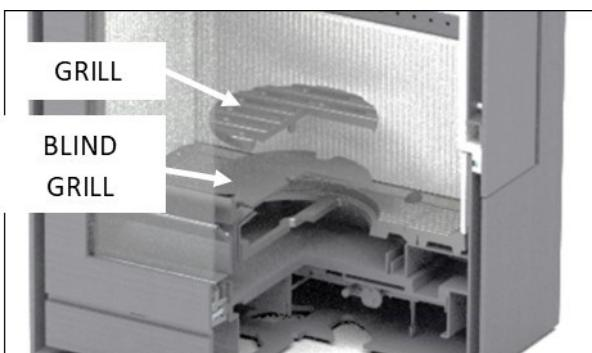

Fig. 14
**Important:** in the event of a weak draw and/or an insufficient ember bed, it is advised to leave the lower air supply open slightly in order to allow your appliance to reach its normal performance (sometimes this can take more than an hour). Depending on the model, it is supplied with a blind grill that is located under the grill (fig. 14). In case of bad draw or use with coal remove the blind grill. Depending on the model, it is supplied with an air-inlet cut off plate which is necessary to obtain the results accredited by the Official laboratory that has tested this product. To remove the air-inlet cut off plate, first remove the interior lining parts. Remove the air-inlet cut off plate by lifting and turning 90 degrees, and then put the internal parts back on. See the section on "Interior lining installation".
It is advisable to empty the ashtray when the appliance is not in use. To remove the ashes, drop them from the hearth into the ashtray through the grate with the tool provided. If your model has a blind grate, remove it before cleaning the ash. It is below the grate (fig. 14).